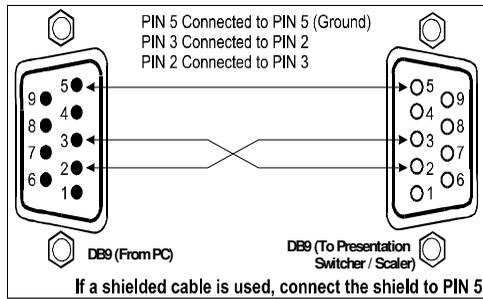

Figure 10: Connecting the PC
- Connect the RS-232 DB9 port on your PC to the RS-232 DB9 rear panel port on the **VP-724xl** unit, forming a cross-connection1, as Figure 10 illustrates